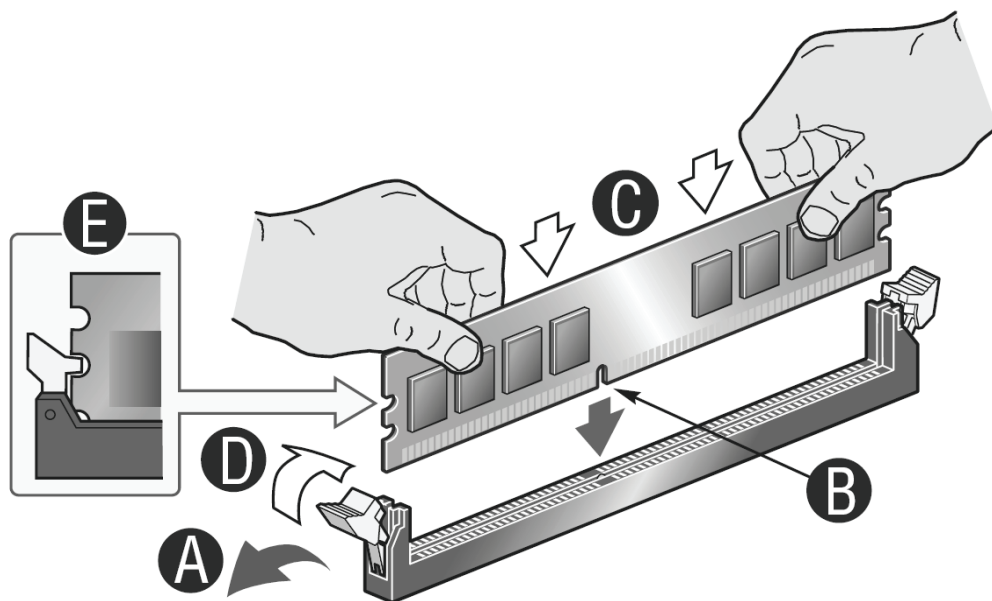

Figure 17. Installing DIMMs
8. Position the DIMM above the socket. Align the small notch in the bottom edge of the DIMM with the keys in the socket (see inset in Figure 17).